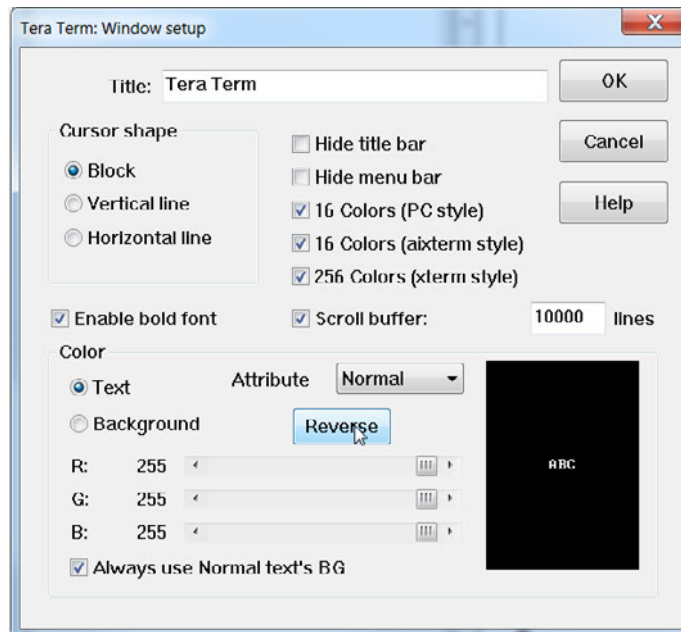

Figure 6-10 • Tera Term Window Setup Dialog Box
- Click **Setup** and choose **Windows**. The Tera Term: Window setup dialog box appears (Figure 6-10).